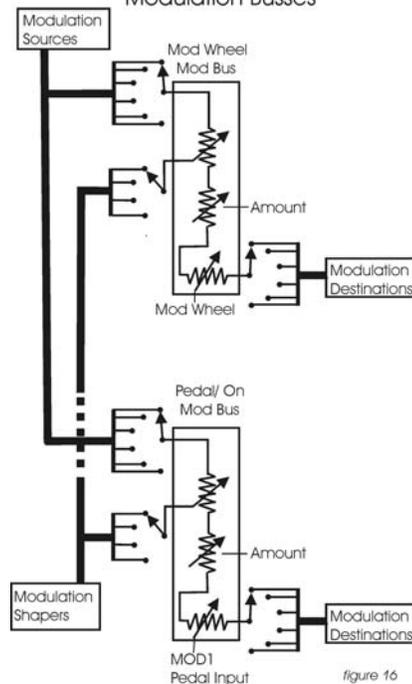

figure 16
- Modulation is performed through the Modulation Busses. There are two separate Mod busses. One is controlled by the Mod Wheel, while the other is controlled by the MOD1 CV input. If nothing is plugged into the MOD1 CV Input, then the PEDAL/ON bus is on at the level determined by the Amount control. In each Mod Bus, a Modulation Source, Shaping signal and Destination are selected. An overall maximum modulation amount can be set with the Amount control. The Modulation CV paths are illustrated in figure 16.